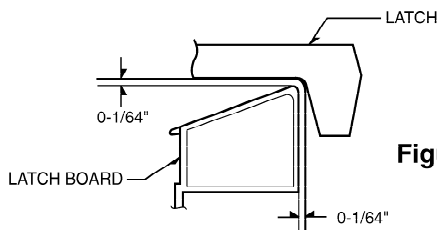

Figure 25
(2) Terminal to case   Figure 25-b	Normal readings: Infinite.  Abnormal reading: Indicates continuity.